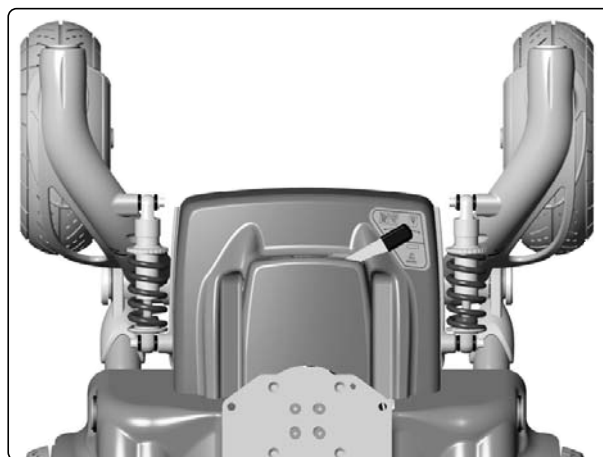

Fig. 17. Front shock absorber.
3. Unscrew the two bolts that secure the shock absorber; see figures 17 and 19.